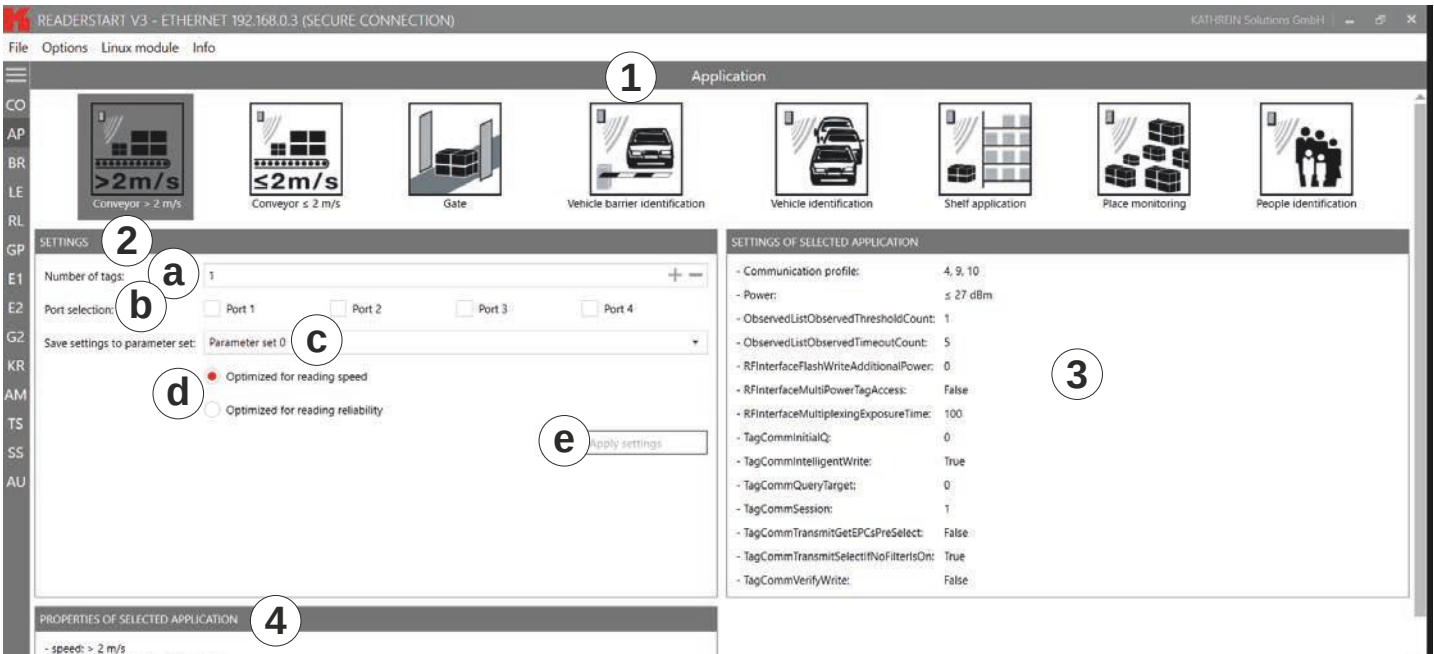

Fig. 33: Application Tab
Ⓒ selects the parameter set in which the configuration is saved sets the values for max. reading speed or max. reading reliability ► Click Optimised for reading speed or Optimised for reading reliability. ⇒ The values in Settings of selected application (③ in Fig. 33) change. When the max. read frequency is set (Optimised for reading speed is activated), the number of readings is maximised. In this case, the same tag can be read several times, because all tags will be reset in the inventory so that they will respond again. Because of reading the same tag multiple times, in a scenario of moving tags it could happen that not all the tags crossing the antenna field are read. The frequency of detection of the same tag is increased. In some cases, the time allowed for detecting the tags may be insufficient, so that some transponders are not detected. When the max. read reliability is set (Optimised for reading reliability is activated), tags that have already been read are not read again in the next inventory, provided they are still being supplied with power. This means that only the tags which have not yet been registered are detected. This way, the probability that all tags are read is increased. saves the settings that have been made as the settings for the selected application in the selected parameter set. The programme resets the settings to the factory settings first, thus overwriting the previous configuration. If the settings have been reset, the Apply settings button briefly glows green and a success message is displayed in the Status field of the programme interface. Ⓔ If case of a fault, the Apply settings button briefly glows orange to indicate a warning or red to indicate an error. If the fault has been caused by a missing entry, the field lacking the entry also glows red. A warning/error description is displayed in the Status field. After the settings have been loaded, it is possible to go to the Basic reading tab and to start the read process.
③	Settings of selected application	shows the settings that have been made for the selected application in the selected parameter set
④	Properties of selected application	shows the properties of the selected application